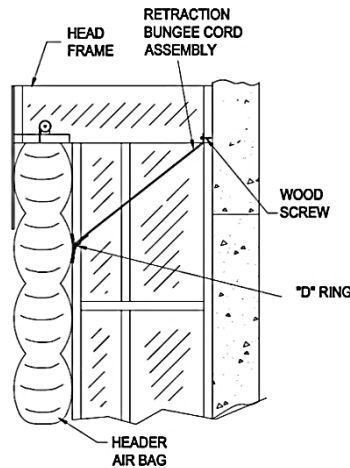

FIG. 20
- c. **Reattach Retraction Bungee Cord Assembly to Head Frame** (Figure 20).